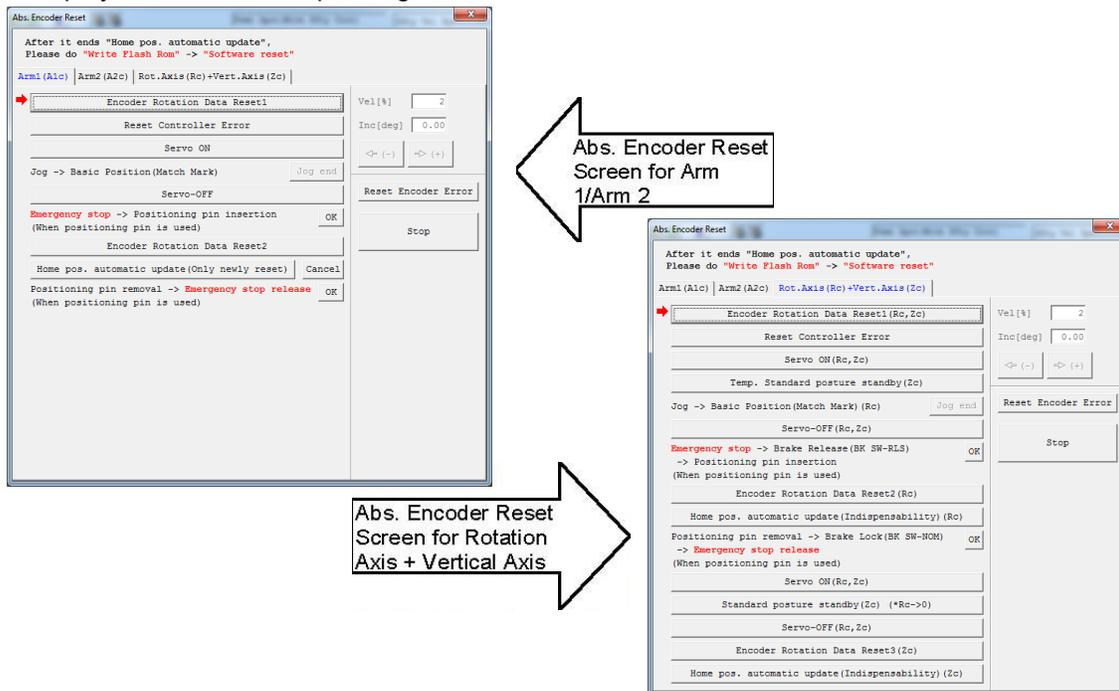

Fig. 13.17 Abs. Encoder Reset Window
- (6) Press the EMERGENCY STOP switch.
- (7) When performing an absolute reset for arm 1, set an adjustment jig (pin) in arm 1 to fix the arm at the reference position. When performing an absolute reset for arm 2, set an adjustment jig (pin) in arm 2 to fix the arm at the reference position.
- To perform an absolute reset for arm 2 with an arm length of 120, turn the arm at a right angle and set the jig as shown in the reference position drawing in Fig. 13.17.